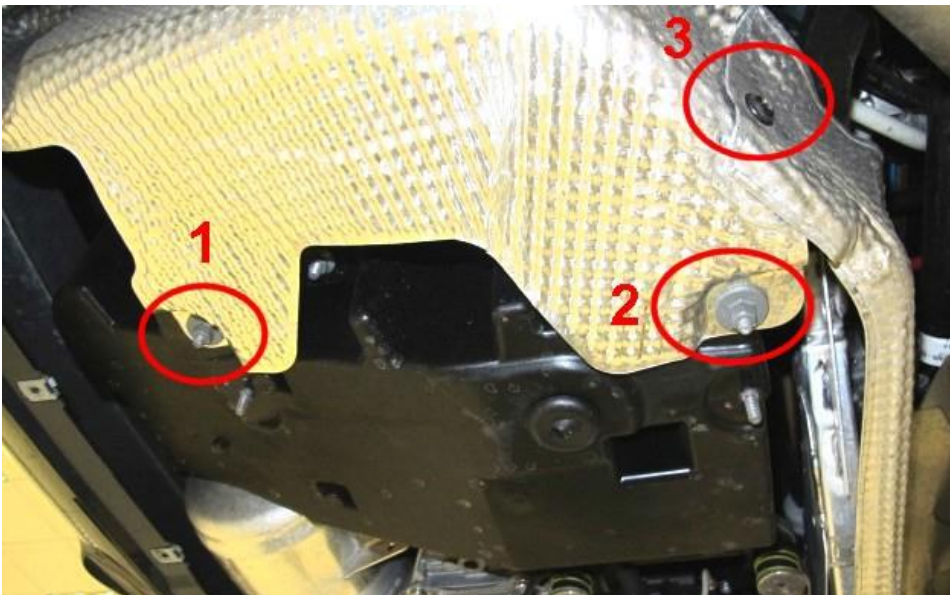

Figure 1
- Referring to Figure 1 – Remove the three fixings shown